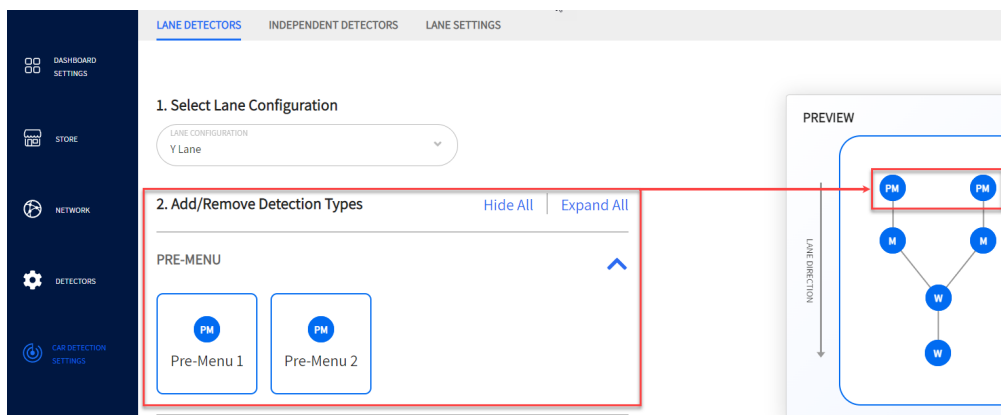

Fig. 7.3
6. Select CAR DETECTION SETTINGS from the sidebar menu. Under Add/Remove Detection Types, expand the PRE-MENU option and click Add to add detectors. See Fig. 7.3.